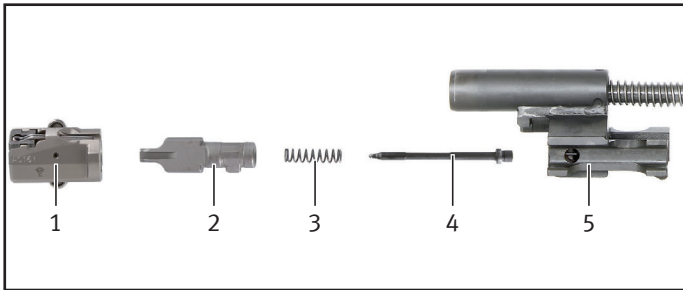

Fig. 45 – Assemble bolt group
1. Push pressure spring for firing pin onto firing pin (Fig. 45).
2. Place firing pin with pressure spring for firing pin into bolt head carrier (Fig. 45)